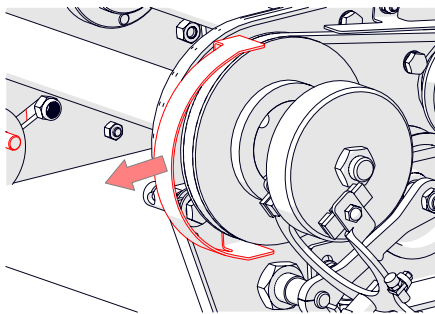

Fig. 17F - Remove brake disc.
7. Remove the brake disc [24 mm spanner] (Fig.17F).